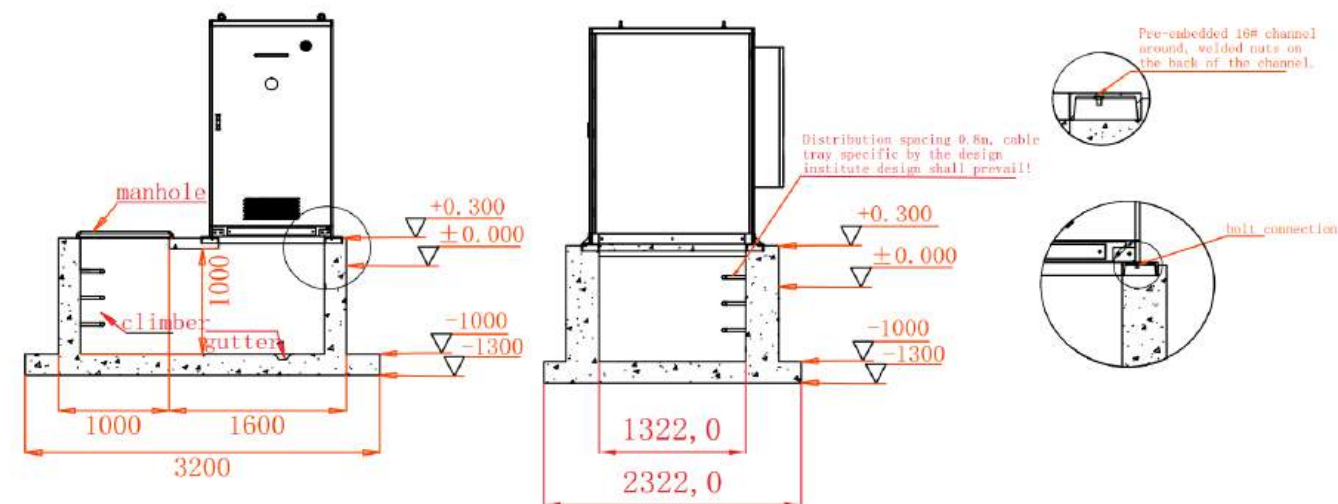

Fig. 4-5 Schematic diagram of energy storage cabinet installation and fixing (subject to actual project conditions)
2. After the lifting of the energy storage system is completed, use M12 (recommended torque: 40N-m) bolts to fix the base of the energy storage cabinet according to the project requirements. As shown in Figures 4-5 and 4-6 below: